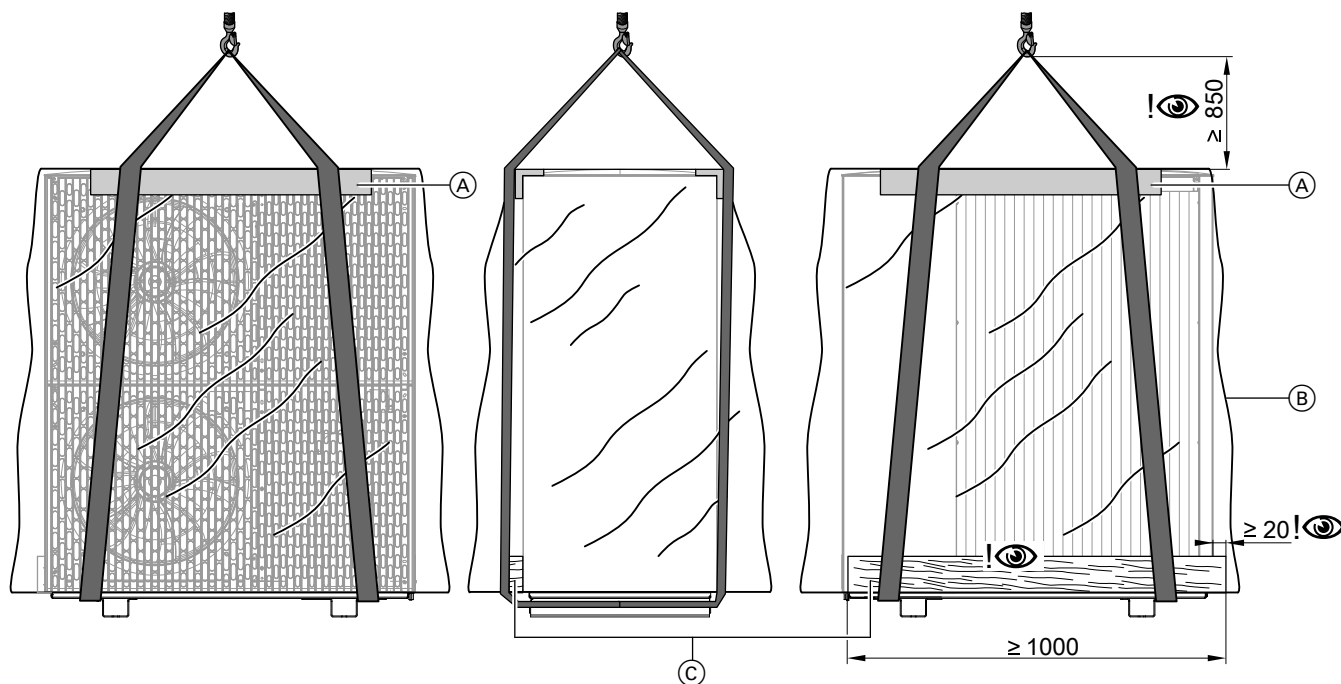

Fig. 7 Transport by crane using the example of the outdoor unit with 2 fans
3. Position edge protection brackets on site at the front and rear upper edges of the outdoor unit. Place slings properly around the outdoor unit: See Fig. 7.